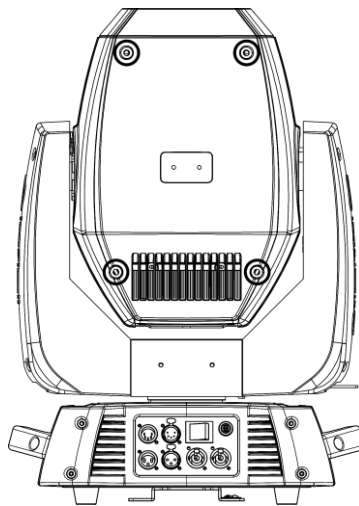

Fig. 08
- 03) Remove the lamp cover by removing the 4 screws (see fig. 08).